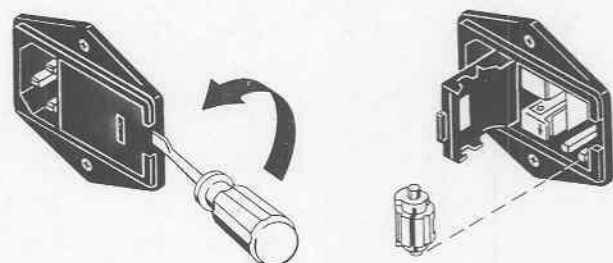

Figure 4-12
4. Refer to Figure 4-12. Place the end of a small flat edge screwdriver into the tab on the right hand side of the power inlet module and pry open the cover.